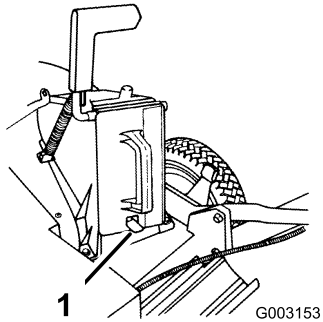

Figure 7
- Push the plug all the way in until the spring clip on the bottom of the plug clicks into place, locking the plug securely into the discharge tunnel (Figure 7).